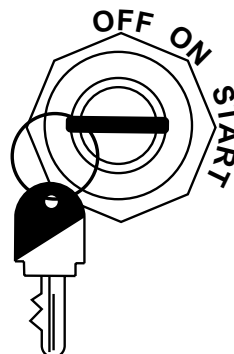

Figure 16. Engine ON/OFF Switch
8. Place the ignition key (Figure 16) in the **START** position and hold it until the engine starts. When the engine starts, release the key, allowing it to return back to the **ON** position.